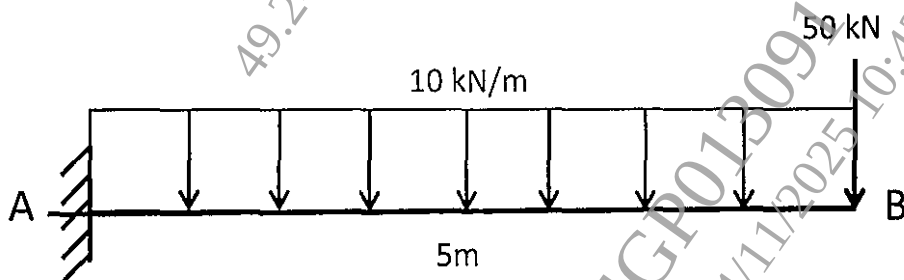

Figure 3
- b)** Plot Shear force and Bending moment diagram for the cantilever beam loaded and supported as shown in Figure 3 [7]